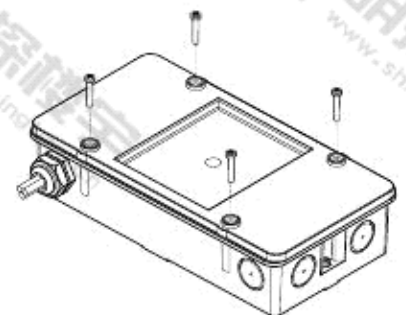

Fig. 6
1. Open the housing (Fig. 6).
6. Close the housing with the lid and screws provided (Fig. 6).